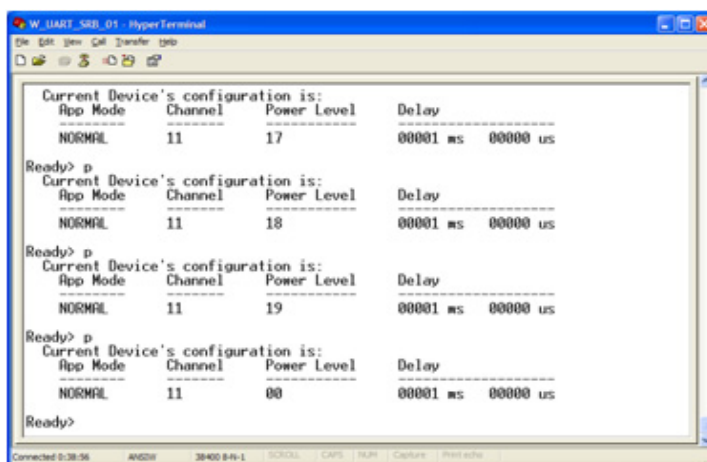

Figure 8-9. Power output adjustment
5. Type “p” to change radio’s output power. The power increases each time “p” is typed until the maximum value is reached. When the maximum value is reached, it resets to the minimum value and begins increasing again. See Figure 8-9.